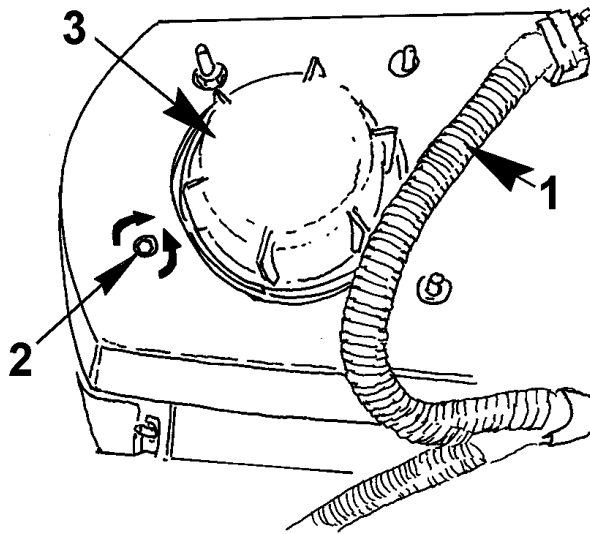

Figure 39 Headlight Adjustment
1. Locate adjustment control stem on rear of headlight housing (Item 2, Figure 39).